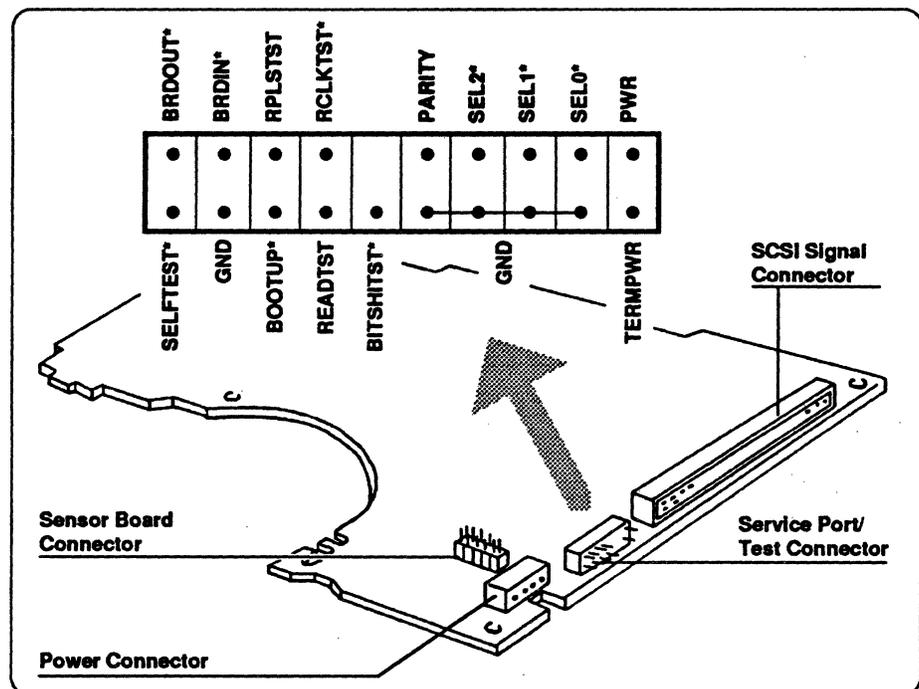
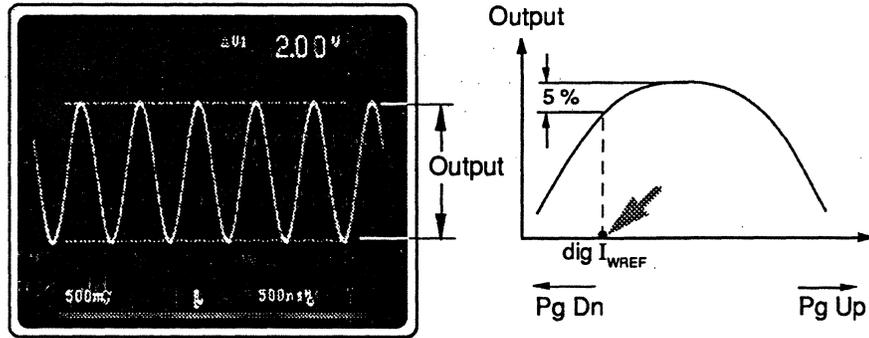

Figure 9.1 Location of Testpoints / Detail of Service Port
Figure 9.3 Write Current Adjustment
Figure 9.1 shows the various monitoring and test pins on the test connector/service port located at the rear of the Drive.
- ① Connect the oscilloscope to READTST (see Figure 9.1)
- ② Select *high density* pattern using *Alt F8*
- ③ Before the adjustment starts, set the Write Symmetry to 32
- ③ Adjust the Write Current (I_w) (see Figure 9.3) to maximum output or to $I_w = 63$, then reduce the Write Current until the output has dropped 5 %. This current is defined as I_{wREF} .